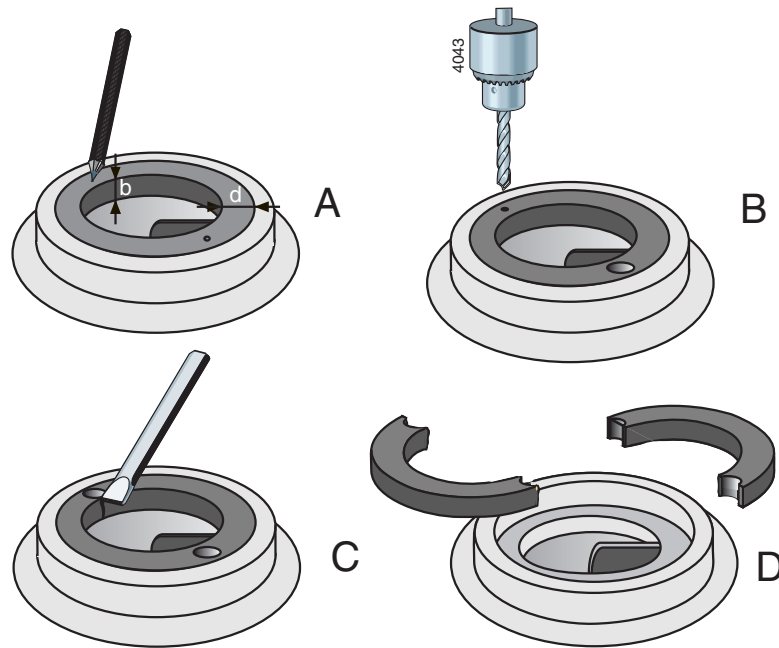

Figure 9: Removal of wear ring.
- 1 Measure the thickness (D) and the width (B) of the ring, see figure 9 A.
- 2 Make a centre hole in the middle of the edge of the ring at two opposite points, see figure 9 B.
- 3 Use a drill with a diameter just a little bit smaller than the thickness (D) of the ring and drill two holes in the ring, see figure 9 C. Don't drill deeper than the width (B) of the ring. Take care not to damage the fitting edge of the pump casing.
- 4 Use a chisel to cut the remaining part of the ring thickness. Now you can remove the ring in two parts from the pump casing, see figure 9 D.